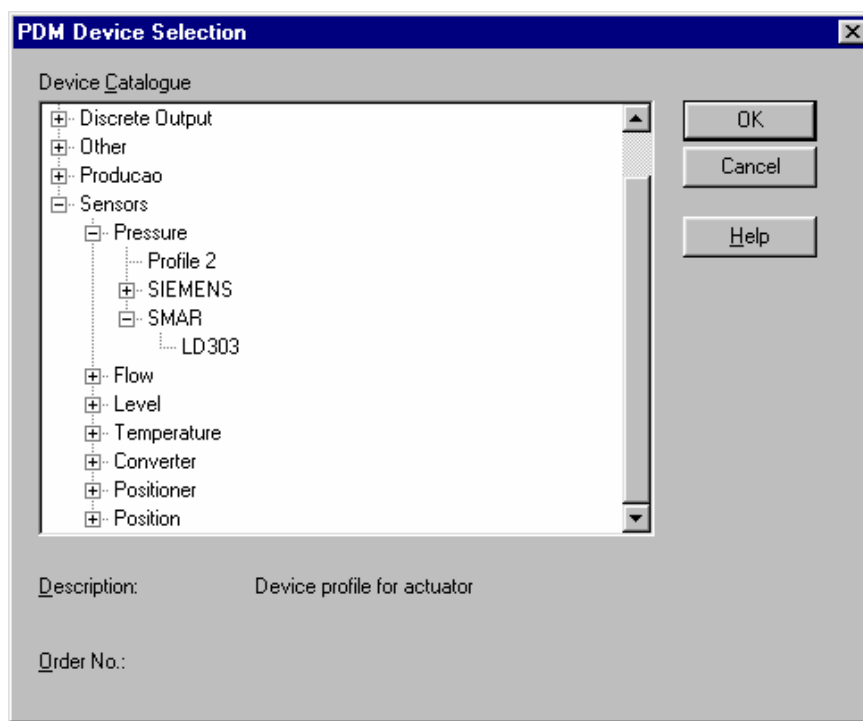

Figure 2.7 - Simatic PDM Device Selection
- 2- Whenever the user attaches the device to his network he has a window to select the devices. See Figure 2.7. The device must be chosen according to the manufacturer and the application: